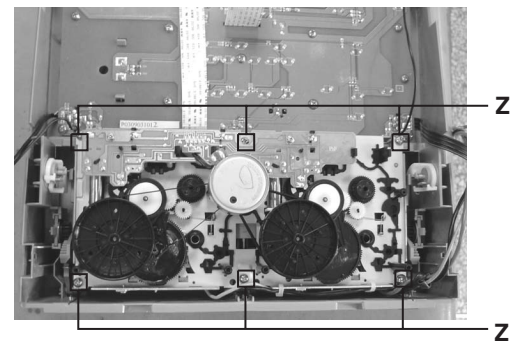

Fig.19
## ■ Replacing the CD turn table and removing the motor (See Fig. 19 )
## □ Removing the cassette deck mechanism (See Fig.19)
(See Fig.19, 23 and 24)
1. Remove six screws **Z** retaining the cassette deck mechanism. (Fig.19)
(See Fig. 19 and 25)
1. Remove the six screws **Z** that retain the cassette deck mechanism. (Fig.19)
## ■ Removing the cassette deck heads (See Fig. 19 and 26)
1. Remove six screws **Z** that retain the cassette deck mechanism. (Fig.19)